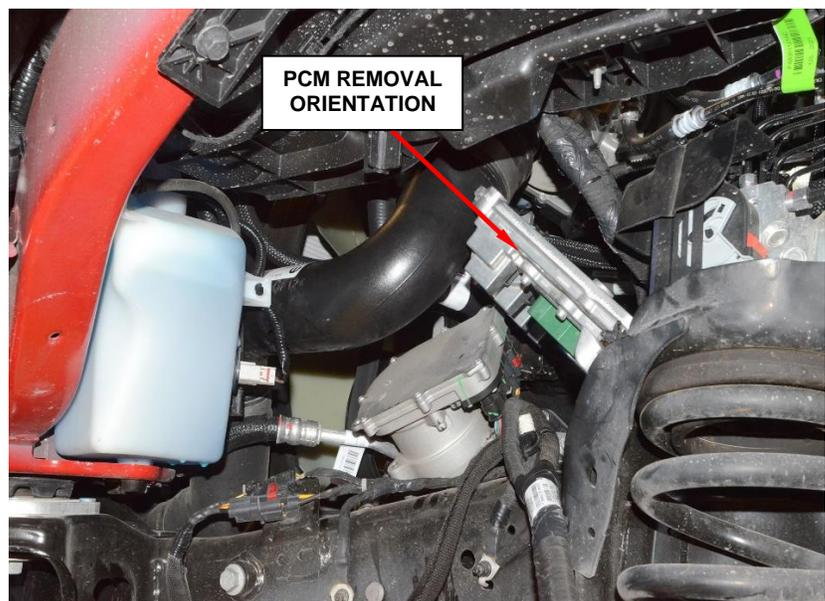

Figure 6 – PCM Removal
11. Rotate the PCM as shown and remove the PCM (Figure 6).